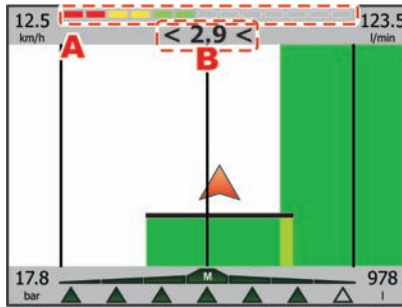

Fig. 126a
It allows to display on the guidance screen the led bar (A in Fig. 126a) which graphically represents the deviation (B).